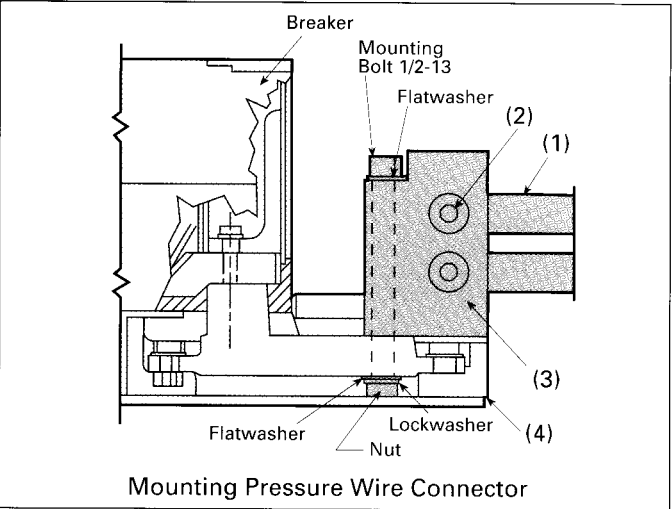

Figure 1
- C. Attach power cables (1) to wire connectors (3) and tighten the cable set screws (2) as shown in Figure 1. Use Table 1 for the torque value of the cable set screws.
- D. Mount pressure wire connectors (3) to connect-all mounting block assembly (4), either front or rear position, with 6" x 1/2-13 hex head mounting bolts, associated nuts, flatwashers and lockwashers provided (Figure 1). Tighten to a torque value indicated in Table 1.